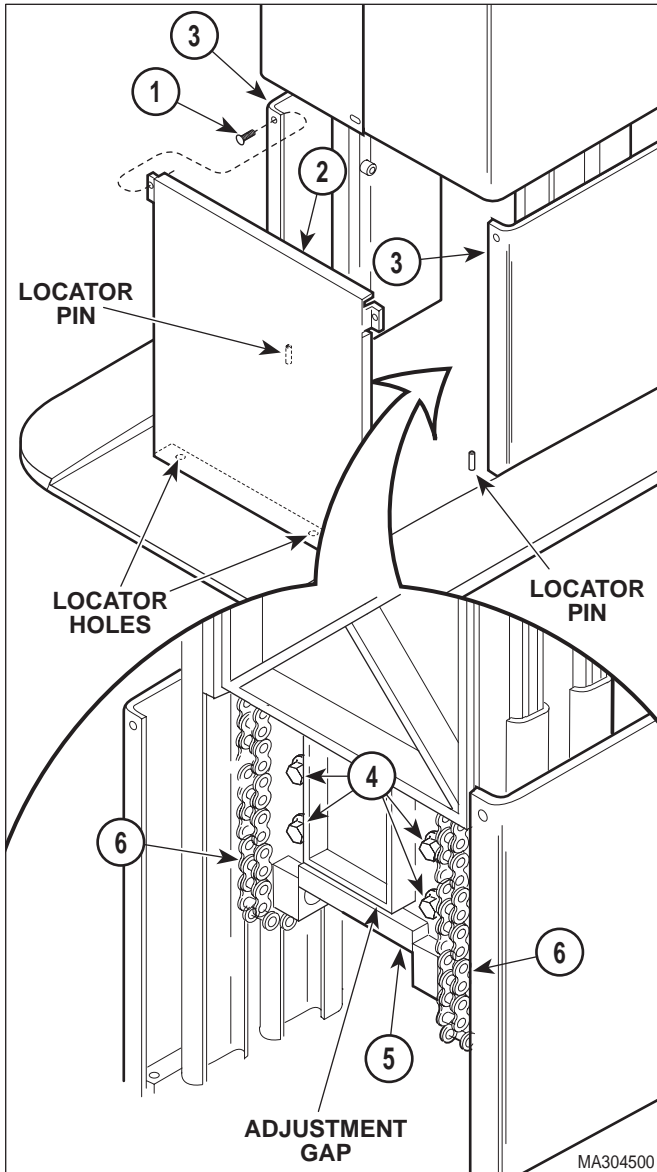

Figure 4-24. Chain Assembly Adjustment
- (1) Raise TABLE UP function all the way up.
- (2) Unplug table power cord from wall outlet.
- (3) Remove two screws (1, Figure 4-24) and front lower shroud (2) from L.H. and R.H. support channels (3).
- (4) Loosen four screws (4).